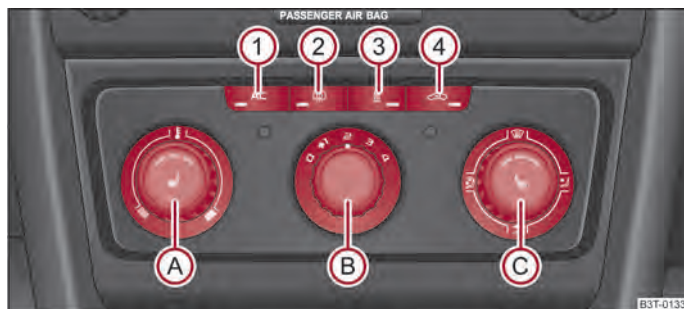

Fig. 110 The air conditioning system: Control elements
The cooling only operates if button  ⇒ fig. 110  is pressed, and the following conditions are met:
- Turn the control dial (A) → fig. 110 to the right in order to increase the temperature.
- Turn the control dial (A) to the left in order to decrease the temperature.
- Press the button (AC) (1) → fig. 110. The warning light lights up in the button.
- When you again press the switch (AC), the cooling system is switched off. The warning light in the button goes out.
- Controls Ⓐ, Ⓑ, Ⓒ and the ① button and ④ ⇒ fig. 110.
- Press the button ④ ⇒ fig. 110 the warning light lights up in the button.
The recirculated air mode is switched off automatically if the air distribution control Ⓒ is in position ⇒ fig. 110. You can also switch recirculated air mode on again from this setting by repeatedly pressing pushbutton .